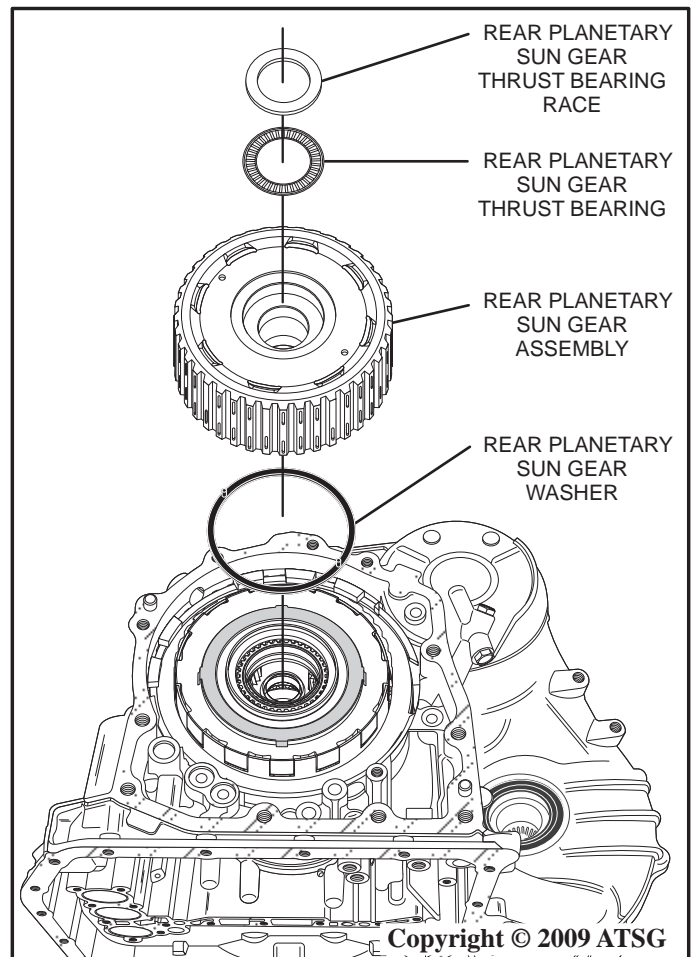

Figure 46
72. Remove the rear planetary sun gear thrust bearing race and the rear planetary sun gear thrust bearing as shown in Figure 46.
73. Remove the rear planetary sun gear assembly by lifting straight up as shown in Figure 46.
74. Remove the rear planetary sun gear washer as shown in Figure 46.